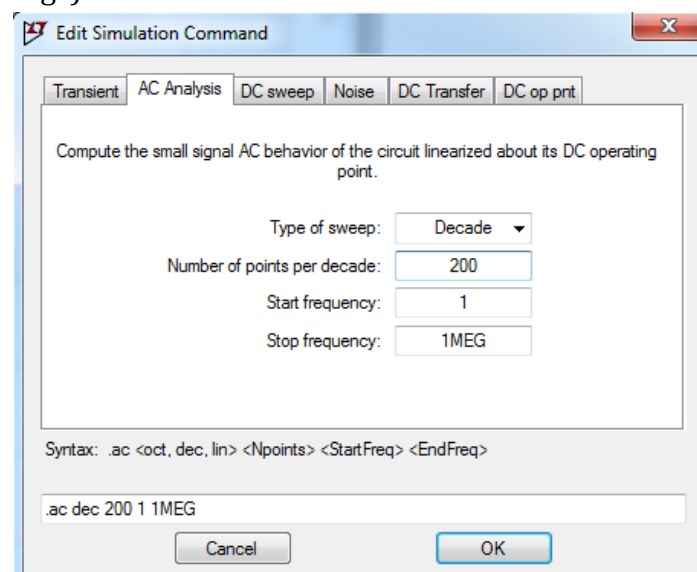

Fig. 2. Declaration of AC analysis parameters.
- Set the analysis parameters as shown in Figure 2,